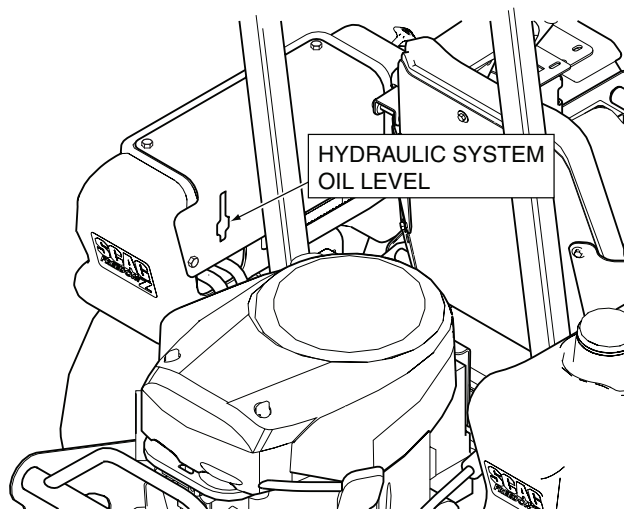

Figure 7-1. Hydraulic System Oil Level
2. When the machine is "cold" (before operation), visually check the level of the hydraulic system oil. Hydraulic system oil level should be in the middle of the indicator window located on the left side of the machine. See Figure 7-1. **DO NOT** overfill; (overfilling the oil reservoir may cause oil seepage).